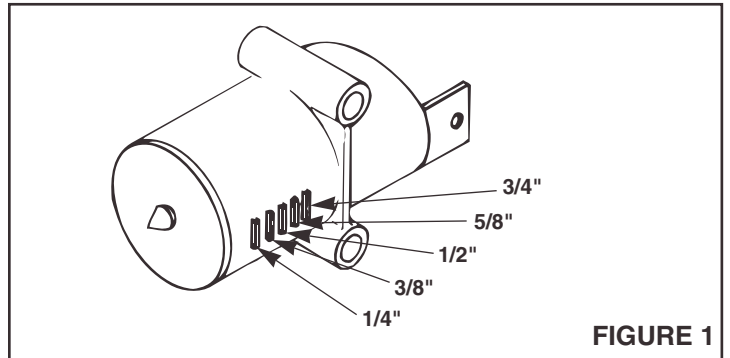

FIGURE 1
1. Refer to Figure 1. The wiring sleeve has wall thickness indicators on the side of the barrel.